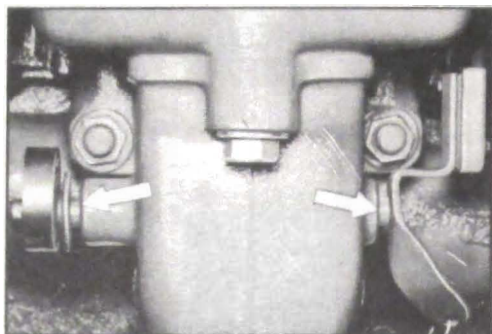

Figure 1-7—Manifold Valve Shaft
10. *Manifold Valve Shaft.* Place a few drops of graphited kerosene on shaft at each end and rotate shaft to work lubricant into bearings. See figure 1-7. If shaft is frozen, free up by tapping ends of shaft lightly with hammer.